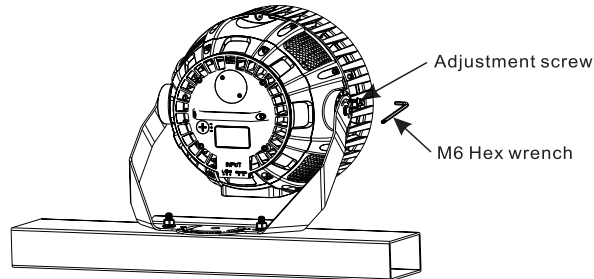

Figure 6
4. Use M6 hex wrench to loosen the adjustment screw used to adjust the angle (Figure 6).